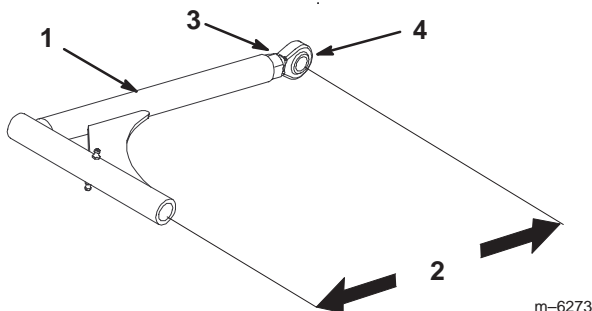

Figure 69
9. If the fixed idler contacts the end of the adjustment slot and more belt tension is required, a small change to lengthen the push arms can be made (Fig. 69).